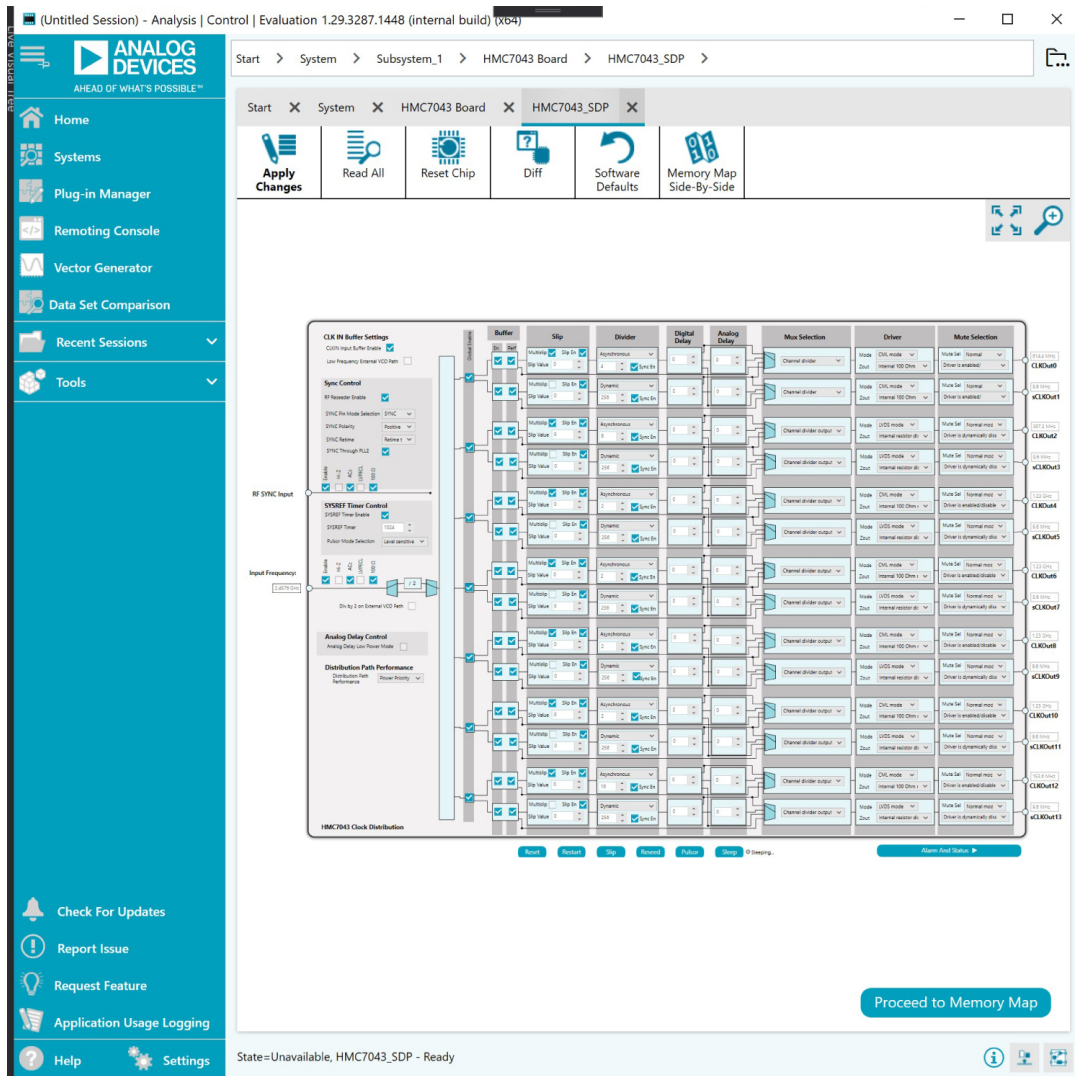

Figure 5. Main Page
- 3. Double-click the **HMC7043** icon that appears on the board GUI to open the main control window shown in Figure 5.
The main controls are available in the high-level register map shown in Figure 5. To modify registers, perform the following steps:
4. Some of the internal frequencies can be calculated depending on the user input. Therefore, other changes are expected when the user interact with certain fields. Figure 5
2. Run the software and follow the steps given in the Evaluation Board Software section to open the main page as shown in Figure 5.